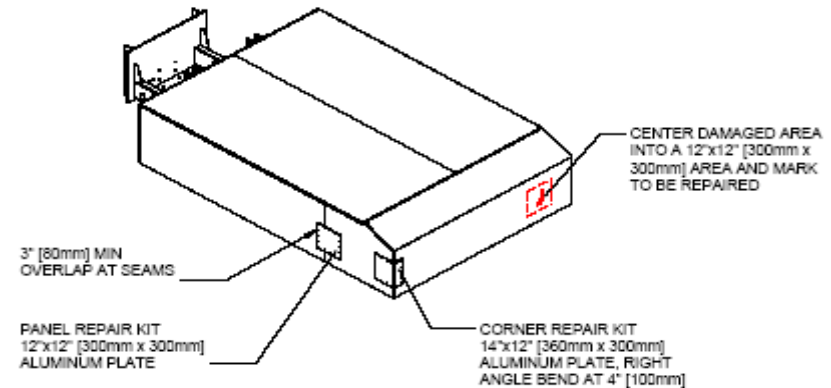

Figure 3 – Repair Kits Application
- c. Center the damaged area across a 300mmx300mm square section and mark/outline this area to be prepped for patching. If repairing a corner or edge, the patched area shall be 230mmx300mm at one side and 100mmx300mm on the other (Figure 3).